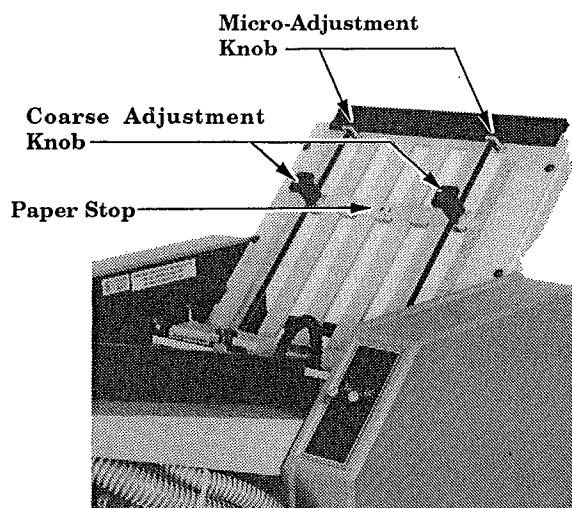

Figure 13
- B) Refer to the printed chart on the stacker tray (See Figure 13) and locate the type of fold that you want to make. (Example: letter fold)
To move the paper stops to the correct position as determined in Step #2, depress the coarse adjustment knobs on the paper stop and slide the paper stop until the indicating edge is aligned with the proper letter on the fold plate. (See Figure 13)